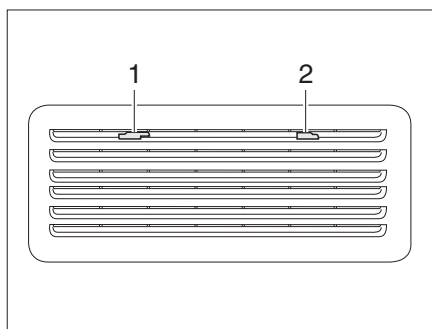
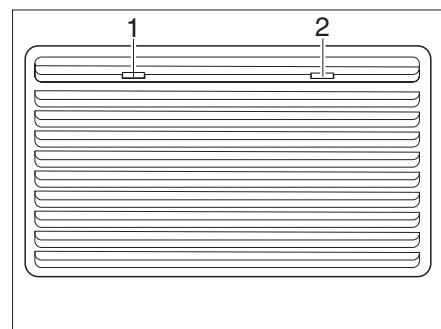

Fig. 129 Refrigerator ventilation grill (Thetford small)
Fig. 130 Refrigerator ventilation grill (Thetford large)
- Slide the locking devices (Fig. 129,1 and 2 or Fig. 130,1 and 2) to the middle.